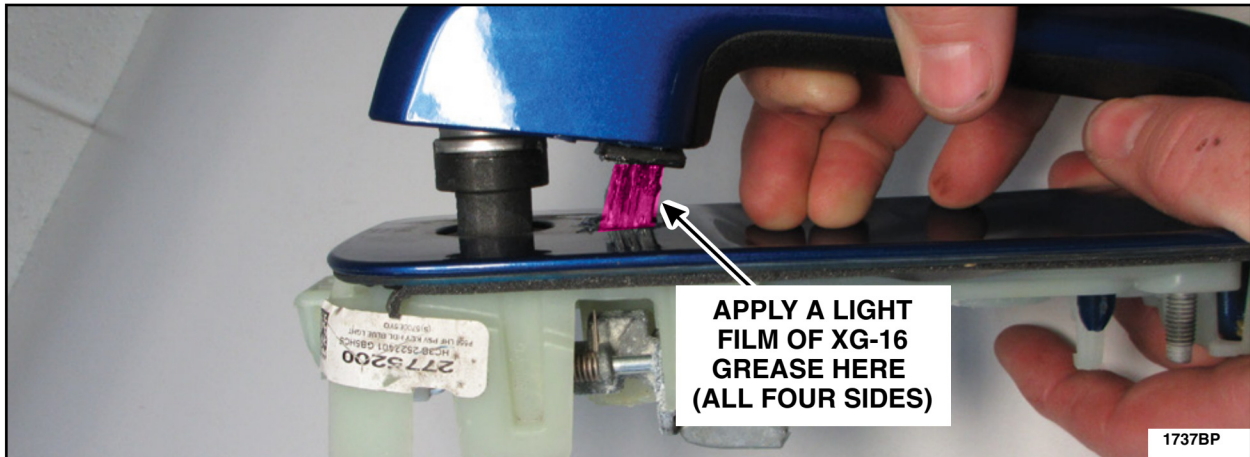

FIGURE 55
37. Using a clean shop towel and isopropyl alcohol, clean the handle plunger then, using a brush, apply a light film of Motorcraft® XG-16 low temperature grease to all four sides of the exterior door handle plunger and to the mechanisms in the areas shown in Figures 55 and 56.